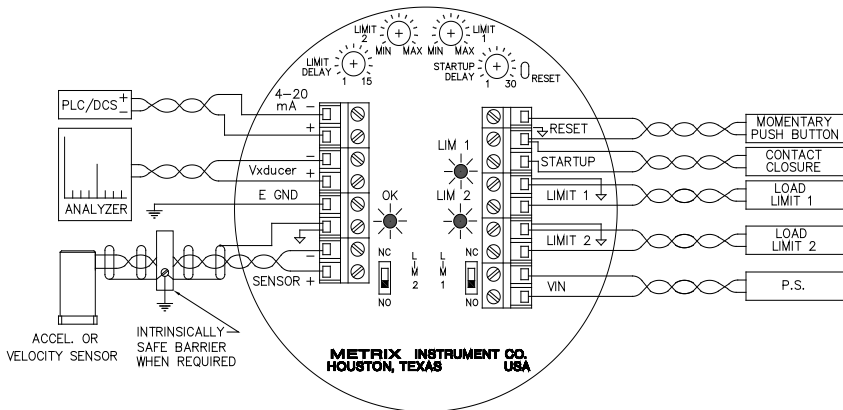

Figure 2: Wiring Diagram (LCD option not shown)
Refer to figure 2 for wiring information. For incoming power and switch output(s) use approved wire of 14 AWG (1.5 sq. mm) or smaller.
- a. Set each SM6100 for N.C. (normally closed) operation. (See Figure 2)
The optional FET limit output(s) provide a low leakage switch for DC inputs to PLC's or other devices. Do not use on an AC supply. Observe proper polarity when wiring the FET(s) (See figure 2). Damage to the FET(s) will result from improper wiring. As with the triacs, the FET(s) can be set for N.C. or N.O. operation by positioning the Limit 1/Limit 2 switches accordingly.
If remote reset capability is desired, connect Reset terminals (see Figure 2) to a remotely located, momentary N.O. pushbutton switch. Observe hazardous area requirements if applicable.
The Model SM6100 requires the use of an external sensor. Refer to Product Identification, option 'G' to determine the type of sensor required. Mount and connect the sensor per the manufacturer's instructions and Figure 2.
If the optional 4-20 mA output is installed, it may be connected to a remote receiver, as shown on the wiring diagram (see Figure 2). This output is a current source (at 15VDC) and requires no external loop power supply. Full scale current (20 mA) corresponds to the full scale vibration response marked on the face plate. A current of 4.0 mA represents a zero vibration condition. The maximum load resistance is 600 ohms. In high electrical noise locations, a shielded, twisted pair cable is recommended.